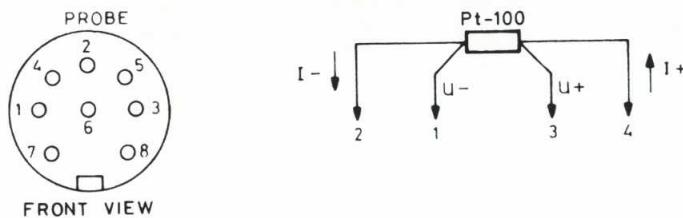

Fig. 16. Connector data of the PROBE input ( $^{\circ}$ C).
- In the  $^{\circ}$ C function the Pt-100 probe PM9249 can be used. For connection of a Pt-100 element see fig. 16.